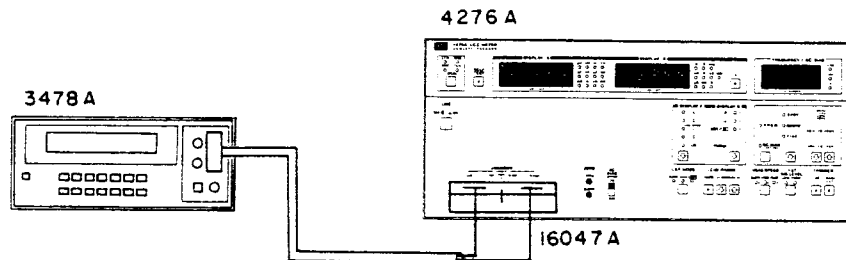

Figure 4-7. Option 001 Internal DC Bias Accuracy Test Setup.
2. Interconnect the 4276A, 16047A, and 3478A as shown in Figure 4-7.